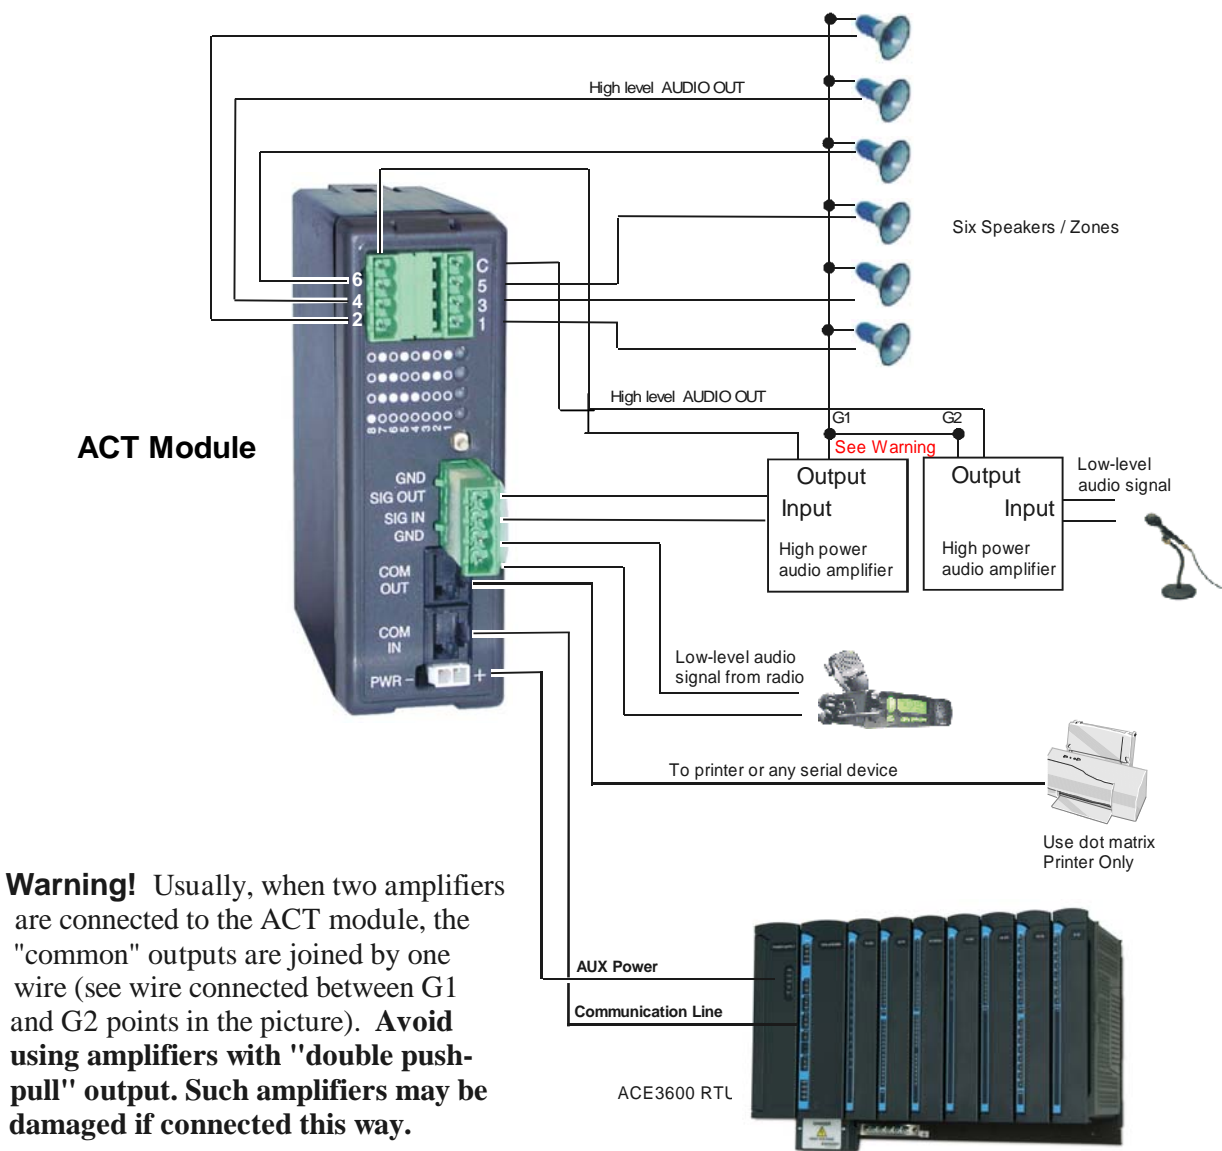

Figure 23-3 ACT Module – Wiring Diagram
- 4) To use high-level audio speakers, connect up to six speakers to the High-Level Audio Out (1-6) relays on the top of the ACT module front panel. See Figure 23-3 below.
- 5) To enable playing prerecorded tones, connect the input of the first high power audio amplifier to the SIG OUT/GND connectors, using the Isolation Board (FCN6294A). Connect the output of the amplifier to the Normally Open connector on the top left corner of the ACT module front panel. See Figure 23-3 below.
- 6) To enable radio voice channel audio (low level signal), connect the external speaker of the voice radio to the SIG IN/GND connectors, using a simple wire cable (can be shielded). See Figure 23-3 below.
- 7) To add a second high power audio amplifier for local microphone, connect the output of the second amplifier Normally Closed (C) connector on the top of the ACT module front panel. Also connect the output of the second amplifier to the output of the first amplifier. See the warning in Figure 23-3 below.
- 9) To attach a dot matrix printer or other serial device, connect the device to the COM OUT connector on the ACT module using a data cable (with connector adaptors as necessary.) See Figure 23-3 below.